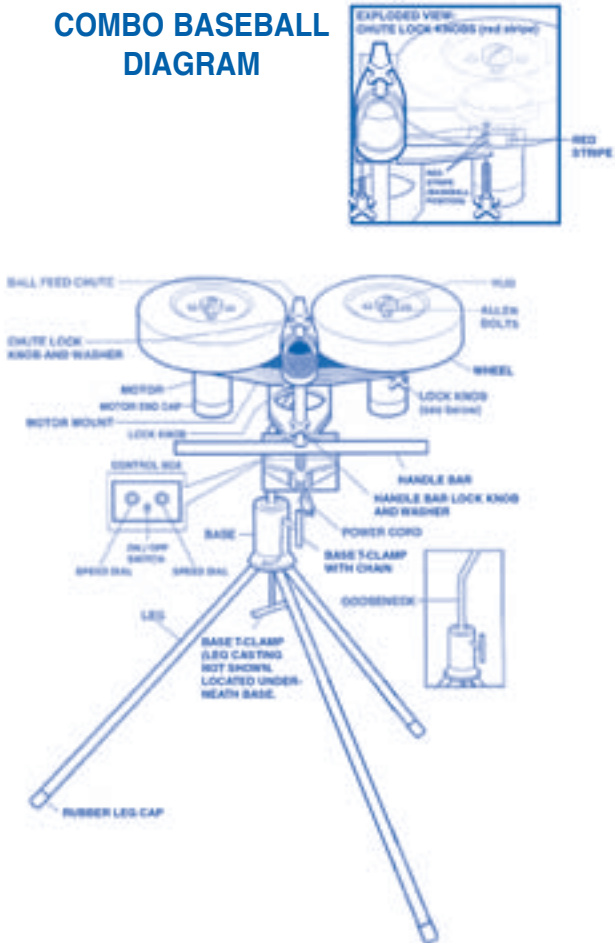

Figure 3
1. With the tire side down, place the triangular leg clamp in the leg clamp casting. (See Figure 3.)
4. Loosen Base T-Clamp and aim machine at desired target. Re-tighten Base Clamp. To adjust trajectory, loosen Handle Bar Lock Knob (Figure 3) and adjust until desired trajectory is attained, then tighten securely. For fine adjustments, loosen lock knob slightly and adjust Handle Bar down, or sideways. (It is normal to throw five or six test balls before arriving at the setting and aim point you desire).
2. Loosen Handle Bar lock knob (Figure 3) and adjust until desired trajectory is attained, then tighten securely. For fine adjustments, loosen lock knob slightly and adjust Handle Bar down, or sideways. (It is normal to throw five or six test balls before arriving at the curve setting and aim point you desire.) Always have the batter and others stand clear while adjusting your JUGS pitching machine and throwing test balls.